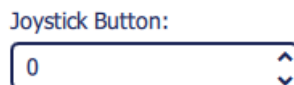

Figure 58 - Joystick Button Box
- a. Record the **Joystick Button** value of the current (first) button (Figure 58).
- b. Record the **Joystick Button** value of the current (first) dial (Figure 58).